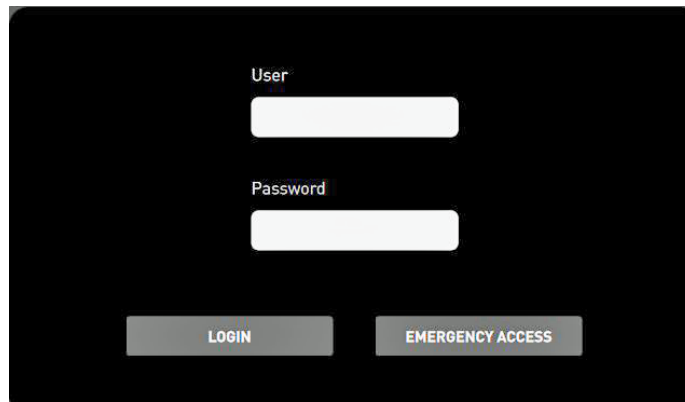

FIGURE 5.7 - System Login Screen
1. Enter your User name and Password into the fields on the System Login screen (FIGURE 5.7). Contact your system administrator if necessary to confirm your User name and Password.
TO PERFORM AN EMERGENCY LOGIN AND EXAM: Select EMERGENCY ACCESS on the System Login screen (FIGURE 5.7). You can then perform an emergency exam for this patient. See Section 5.10. “Performing an Emergency Exam on a Patient” for instructions.